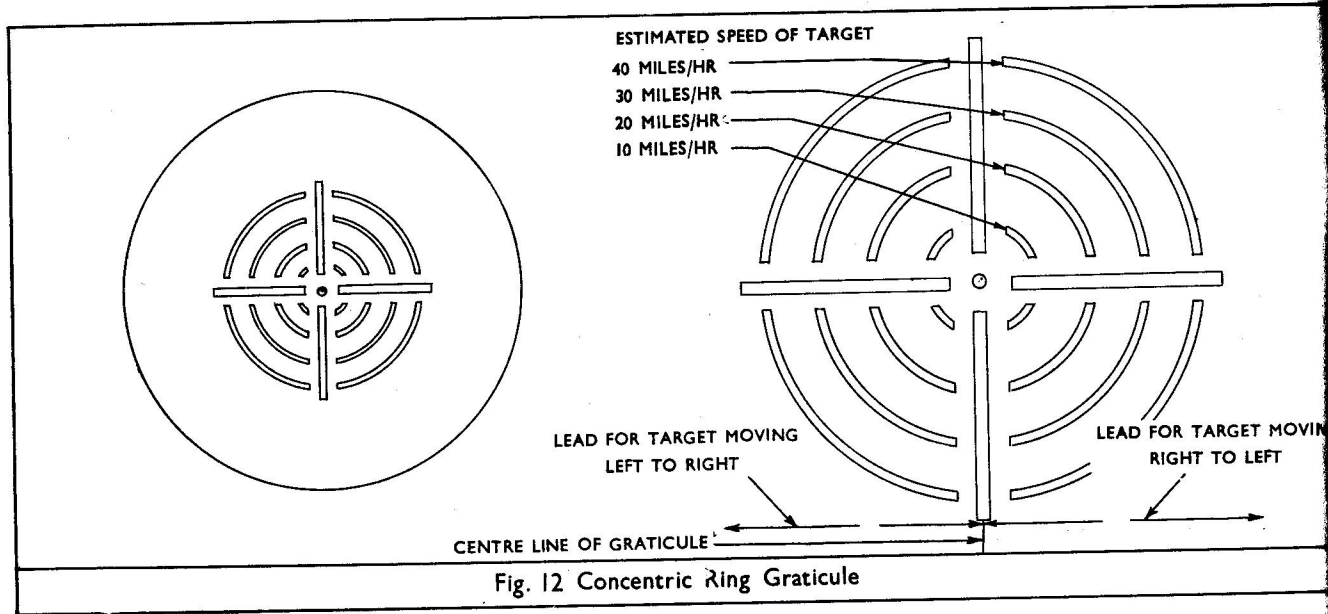

Fig. 12 Concentric Ring Graticule
19.2. Concentric ring (Fig.12) Has a vertical and horizontal line, and rings spaced to give the necessary lead for targets moving across the line of fire.